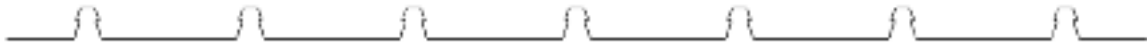

FIGURE 35
- Klip-Lok 700 colour steel tile rib is made of Square rib (Figure 35);